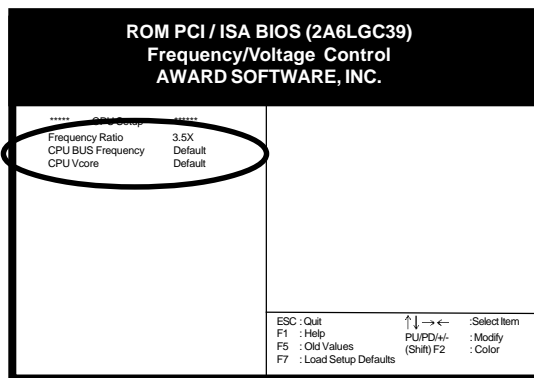

Figure 2-4
4. Set your CPU's parameters. Set the frequency ratio (also known as external clock multiplier factor) and CPU bus frequency according to your processor's specifications. See Figure 2-4.